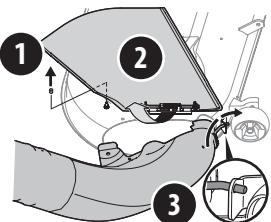

Figure 15
2. If present, remove the protective cap off of the mounting stud on the mowing deck as shown in (1) of Figure 15.
3. With the tractor's discharge chute raised up and held open (2), install the chute elbow by placing the chute elbow mounting pin into the hole provided (3), as shown in Figure 15.